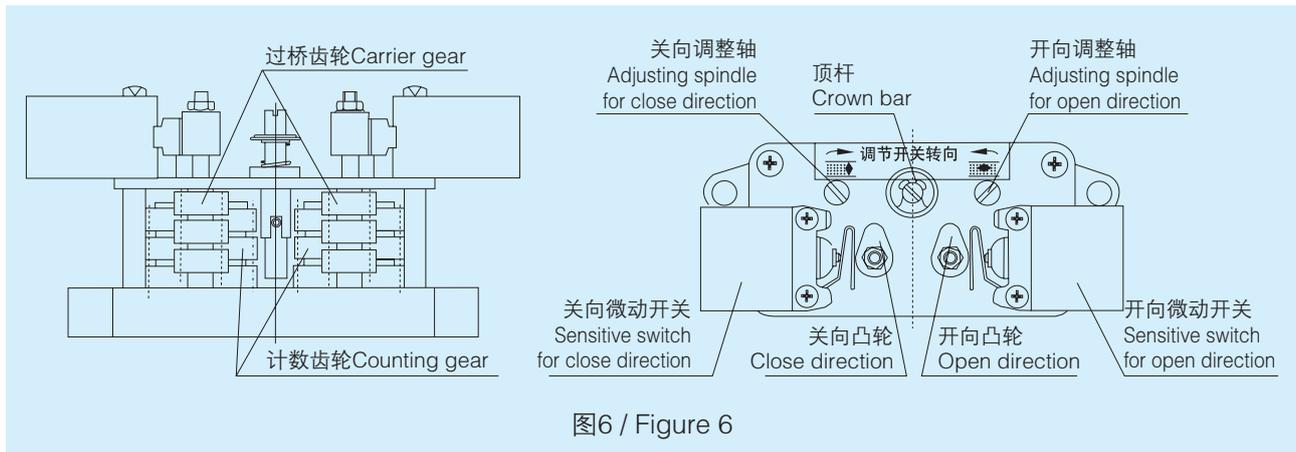

图6 / Figure 6
采用十进制计数器原理，控制精度高。为全系列通用部件，其结构见图 6。其工作原理为：由减速箱内的一对大小伞齿轮带动主动小齿轮(Z=8)，再带动行程控制器工作。如果行程控制器按阀门开、关的位置已调整好，当控制器随输出轴转动到预先调整好的位置(圈数)时，则凸轮将转动 90°，迫使微动开关动作，切断电机电源，使电机停转，从而实现对电动执行机构行程(转圈数)的控制。
It applies the principal of decimal counter with high control accuracy. It is the complete line of general purpose part, and we can refer to Figure 6 for its structure. The following is the operating principal of the motion controller: one pair of big and small bevel bears inside the reduction gearbox will drive the driving pinion (Z=8), and then drive the motion controller to work. If the motion controller has been regulated according to the open position and close position of valve, and when the controller turns to the preset position (number of turns) along with the output axis, the cam will turn 90° to drive the sensitive switch to actuate, which can cut the motor power supply, and stop the motor, and so achieve the control to the travel (number of turns) of electric actuator.
6.2 行程控制器的调整(参见图 6) The adjustment for motion controller (Refer to Figure 6)